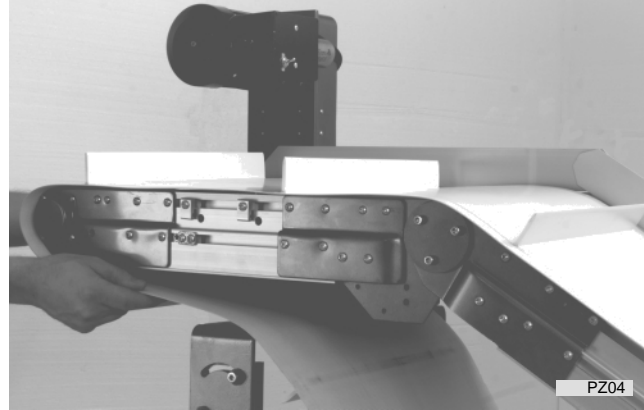

Figure 30: LPZ Conveyor Belt Being Slid Off Conveyor Through Gap Created By Removing Aluminum or Steel Stand Attachment Components
1. Slide the old belt sideways and away from the conveyor section (Figure 30).